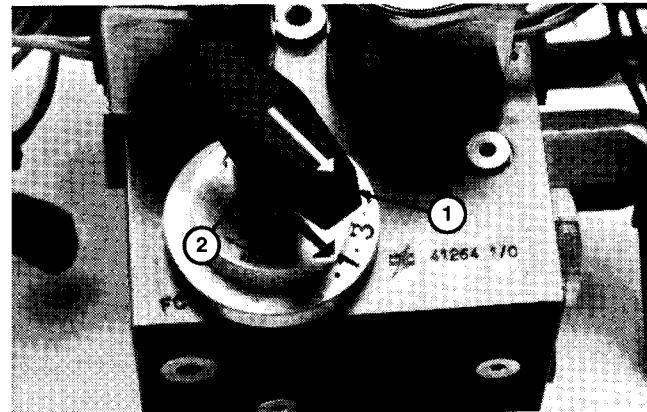

Figure 90
5. Thread other jam nut onto valve stem. Apply "Loctite 242" or equivalent to threads on end of valve stem. Thread knob onto valve stem, align arrow on handle with arrow on indicator plate and tighten top jam nut against knob (Fig. 90).
10. Put seal protector tool on motor shaft (Fig. 90) or apply thin plastic or tape on the shaft to protect the seal from damage.